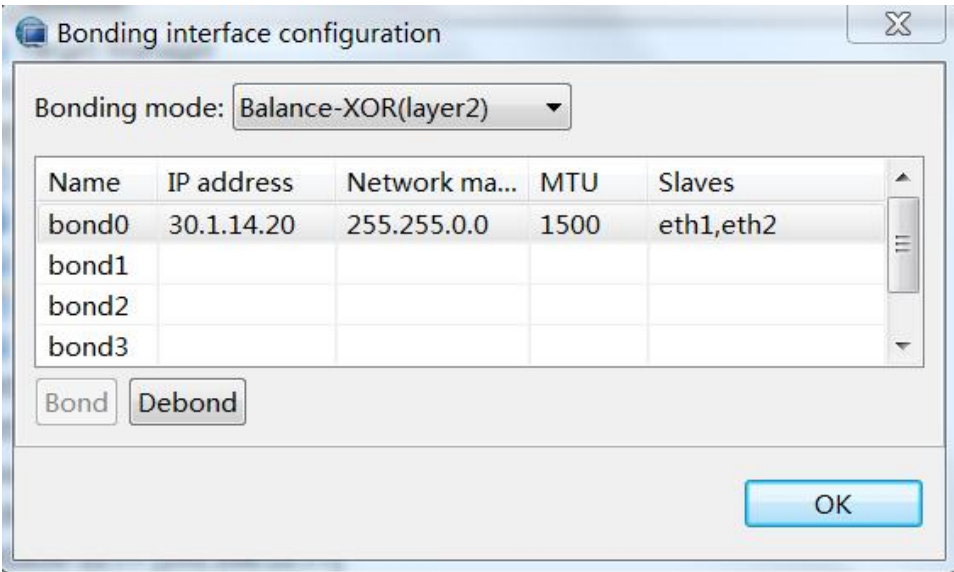
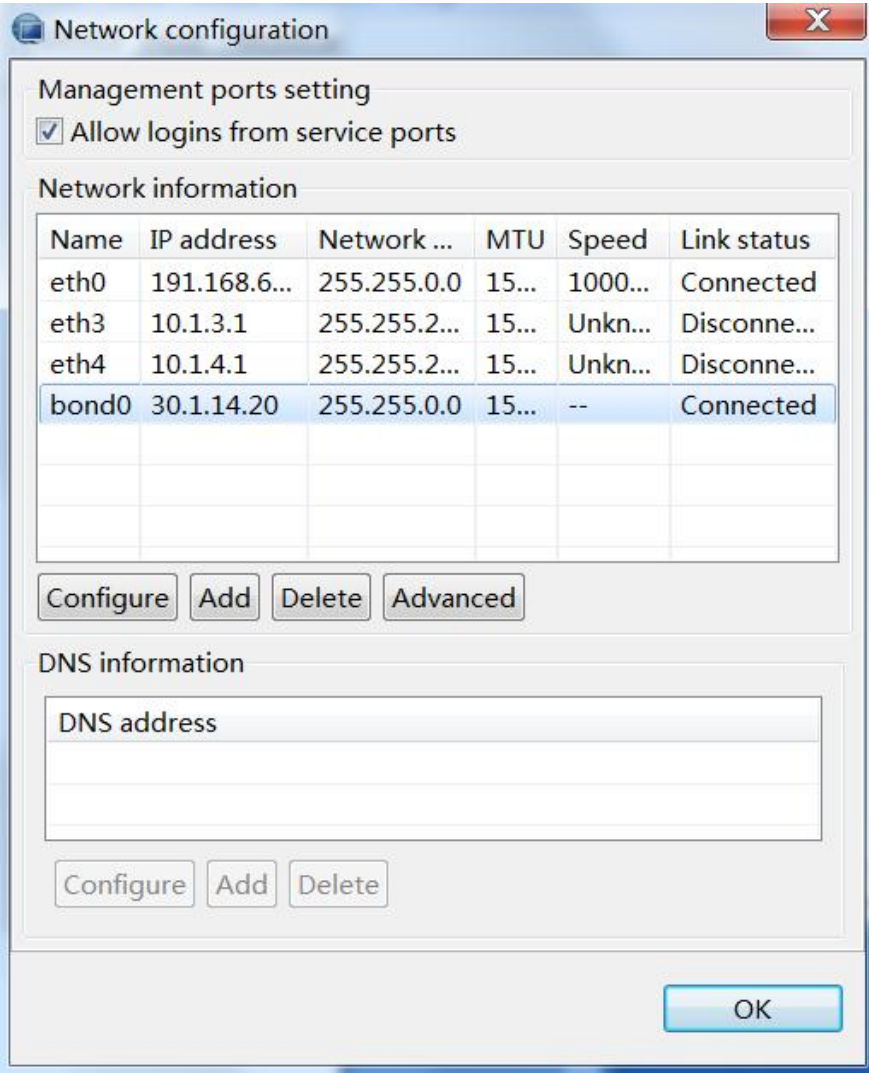

Figure 10-12 Selecting a network port for bonding 3
Figure 10-13 Checking bonding information 1
(5) Selecting the **[System Maintenance > Network Configuration]** menu item will show bonding information, as shown in Figure 10-12, or you can select the **[System Maintenance > Network Bonding]** menu item to check bonding information, as shown in Figure 10-13: